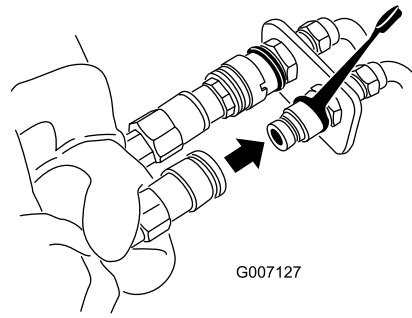

Figure 34
7. Push the attachment female connector into the male connector on the traction unit (Figure 34).